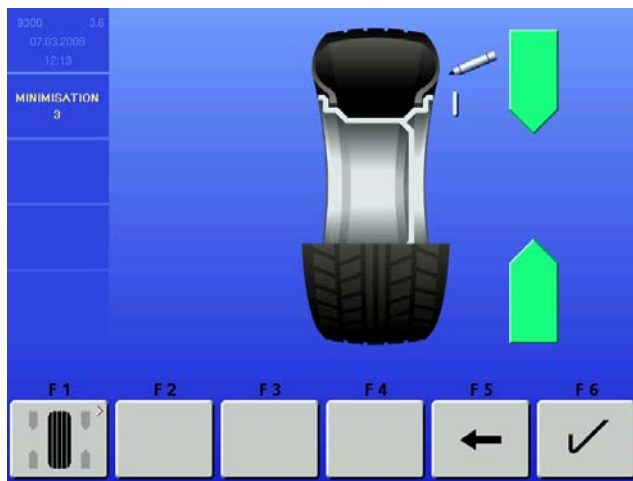

Figure 29
5. Rotate the assembly so the arrows are both GREEN, as shown in Figure 29. Mark the tire at top dead center. Select “F6” to continue.